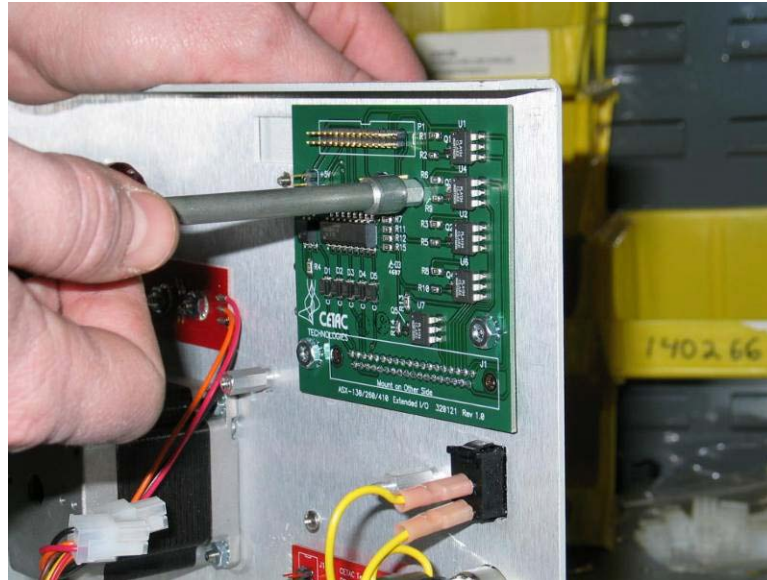

Figure 1-39 Securing Daughter board to chassis (ASX-260).
13. Install the daughter board on the three studs. Secure to the bottom two posts with the 5/16" head nuts provided in the kit. Secure to the top post with the 3/8" standoff using 1/4" nut driver (Figure 1-39).